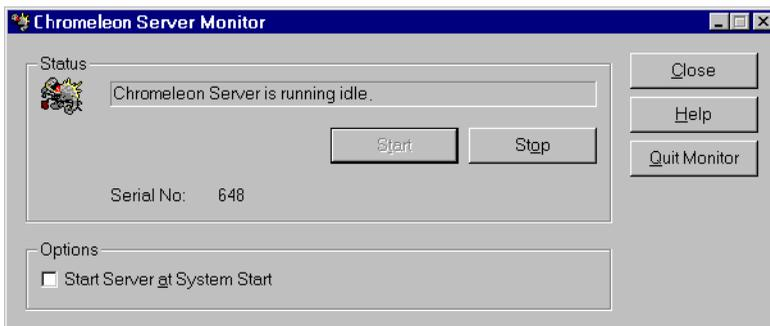

Figure B-7. Server Running
5. Check the Server Monitor status. It should now display “Chromeleon Server is running idle.” (see Figure B-7).